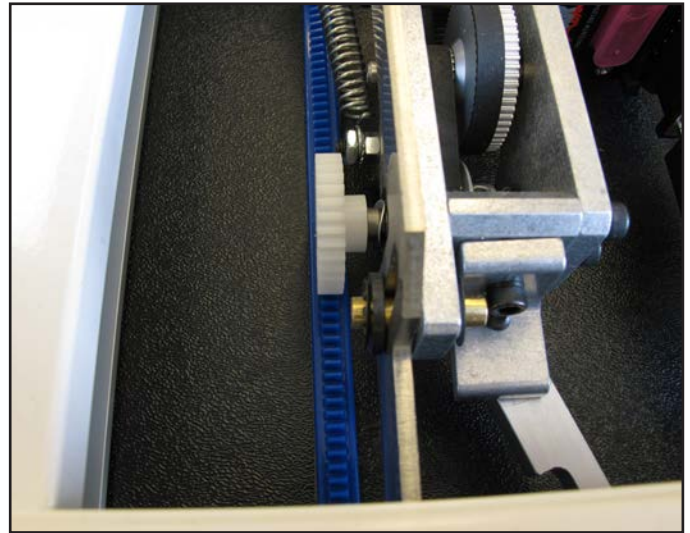

Figure 3.4
4. Make adjustments to the placement of the blue rack as necessary to align the blue flexirack with the front white gear on the Pro-Stitcher carriage (**Figure 3.4**).